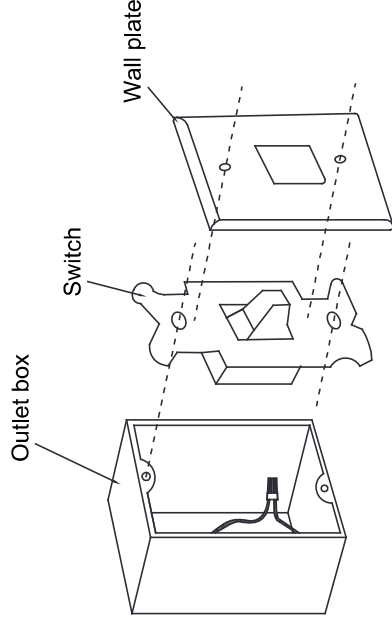

Fig. 17
Step 1. Remove the existing wall plate and the old switch from the wall outlet box. Wire nut the BLACK leads (hot) together and push back inside the outlet box (**Fig. 17**) or select the desired location with a new wall outlet box.